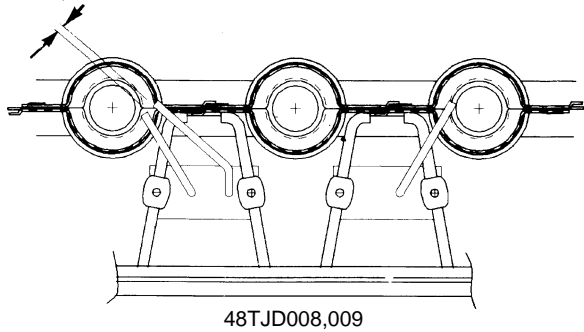

**Fig. 45 — Burner Section Details**
2. Remove the 6 screws that attach induced-draft motor housing to vestibule plate (Fig. 45).
## REMOVAL AND REPLACEMENT OF GAS TRAIN (Fig. 45 and 46)